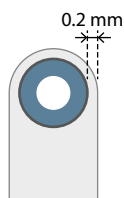

Figure 10
- Full pull tabs (Figure 10) and partial pull tabs (Figure 11) should extend 0.2 mm beyond the vent.